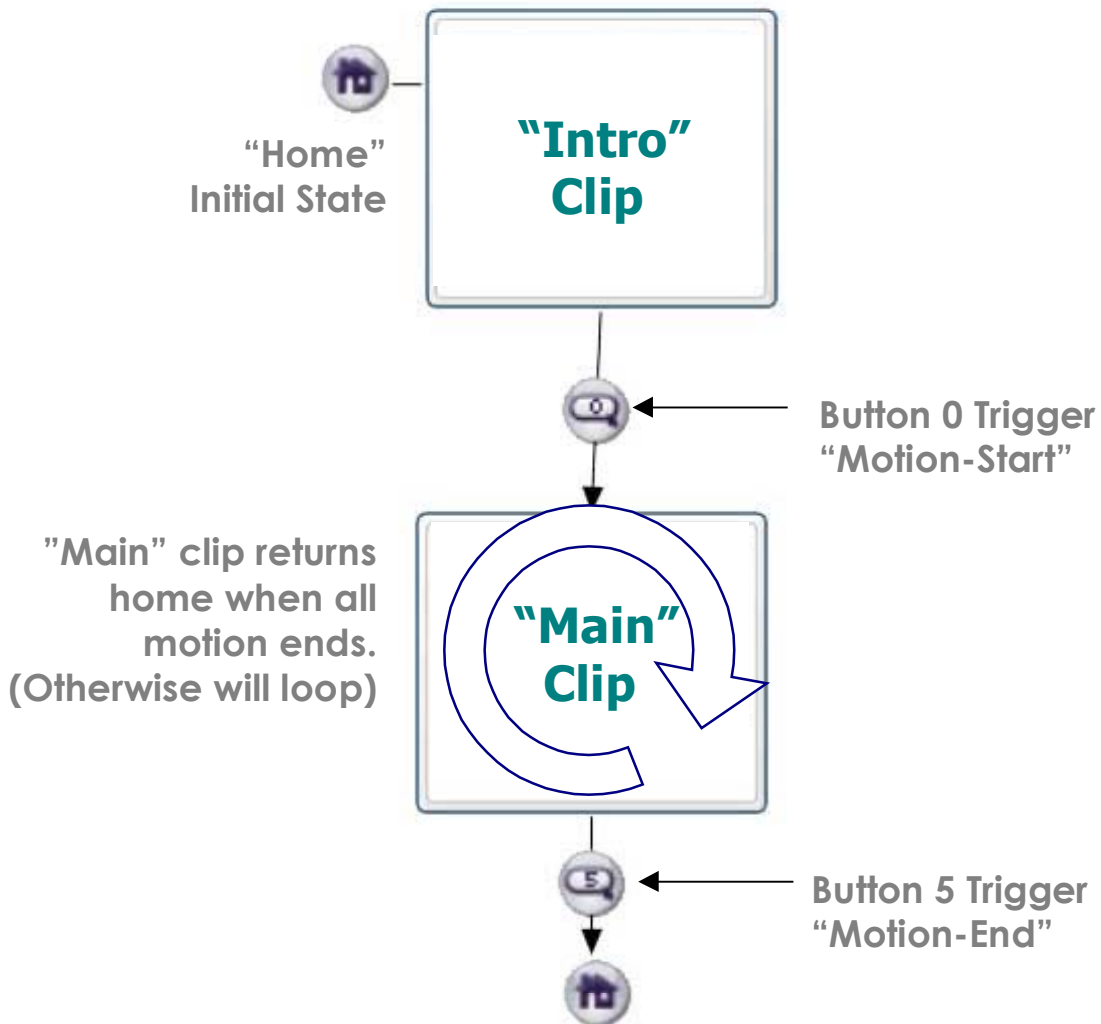

Figure 3.1.2
The presentation shown in Figure 3.1.2 takes advantage of the reciprocating behavior of Buttons 0 and 5. On startup, the BrightSign plays the "Intro" clip until the sensor detects motion. The detection signal will in turn trigger the Button 0 event and the transition to the "Main" clip.
The presentation shown in Figure 3.1.2 consists of two media clips, “Intro” and “Main”. In both cases, motion (or no motion) will trigger the transitions from one state to the next. Button 0 serves as the “motion-start” detector trigger while Button 5 acts as a “motion-end” trigger.
- Apply the GPIO event transition to your media clip by dragging a path *from* the bottom of the clip's thumbnail *to* the top of the second clip's thumbnail. This creates a button "0" transition path between the two clips as indicated in Figure 3.1.2.